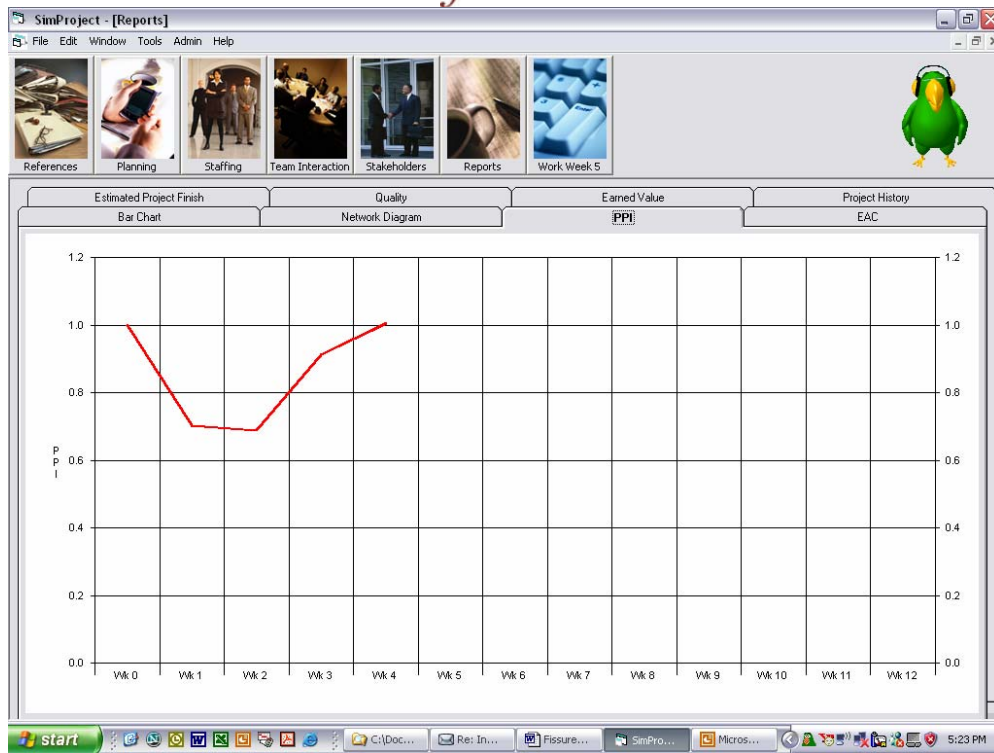

Figure 18 - Reports Screen – Project Performance Index
- PPI – Project Performance Index: % budget spent/ % project complete (Figure 18)